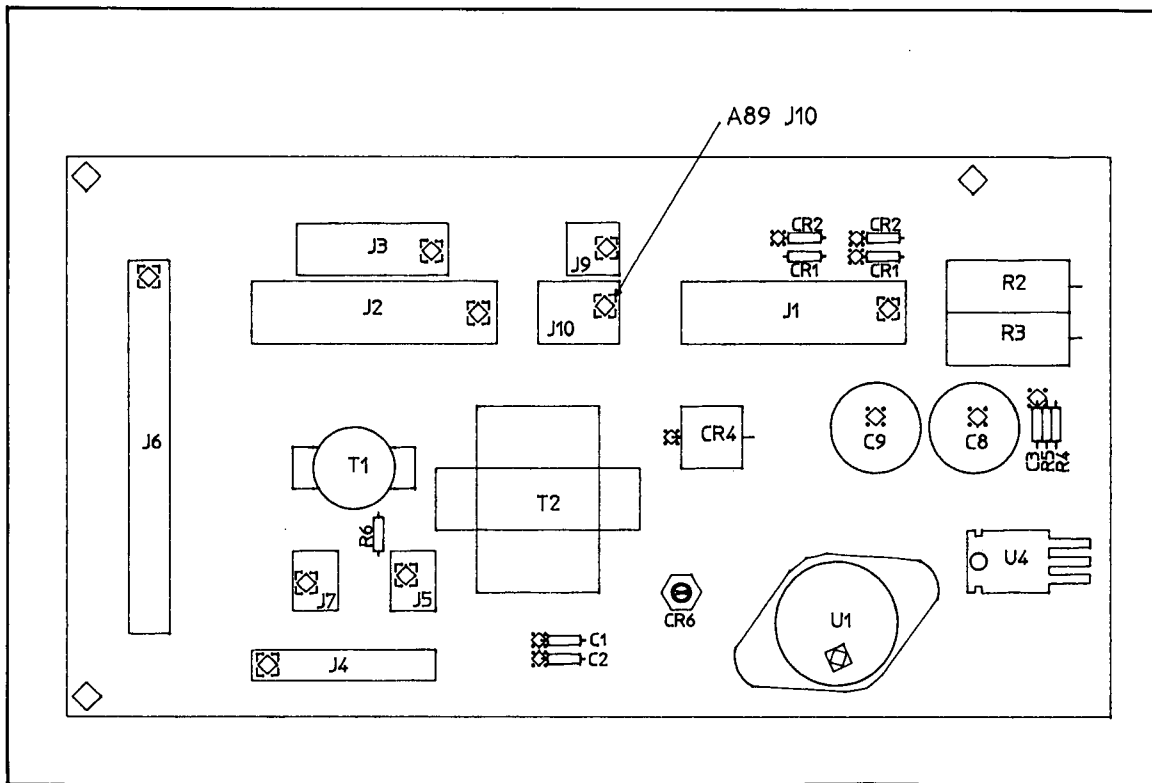

Figure 5-21. Power Distribution (A89)
b. Disconnect A89J10 to remove power to the Input/Conversion section ( see Figure 5-21).